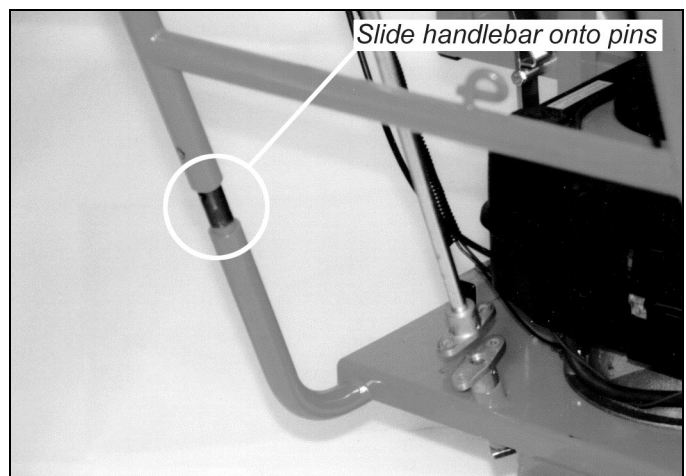
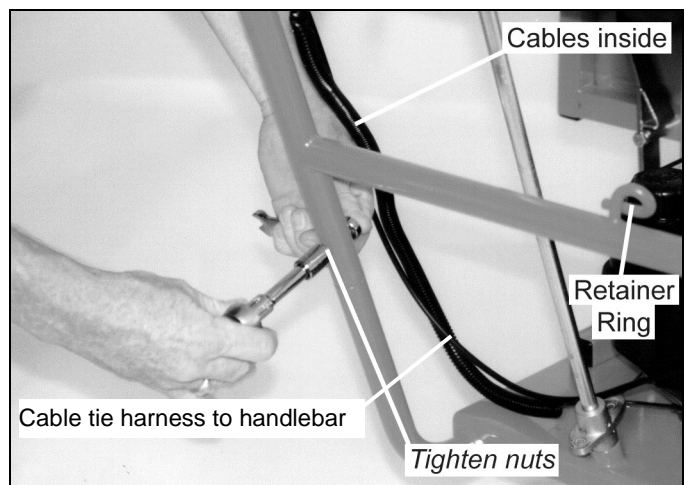

Figure 1
Figure 2
2. Lift the handlebars out of the bed, turning them to the right (clockwise) into operating position, and slide them onto the handlebar pins on the frame (*Figure 1*). Be careful not to pinch the control cables. Locate the cables on the inside of the handlebars: the ignition and throttle cables on the left (*Figure 2*), and the brake cable on the right
3. Push the handlebars all the way down and insert the handlebar bolts from the inside out. Tighten the nuts (*Figure 2*). Use the cable ties as needed to snug the control cables against the handlebars.
4. Pull the recoil/starter rope out slowly and insert the rope through the curled retainer ring on the handlebar crossbar (*Figure 2*).